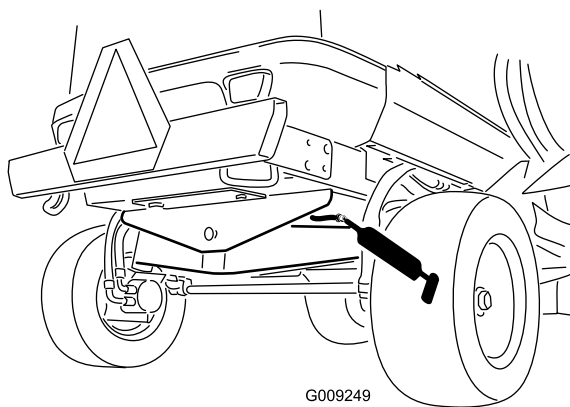

Figure 52
- Rear axle pivot bushing (1) (Figure 52)